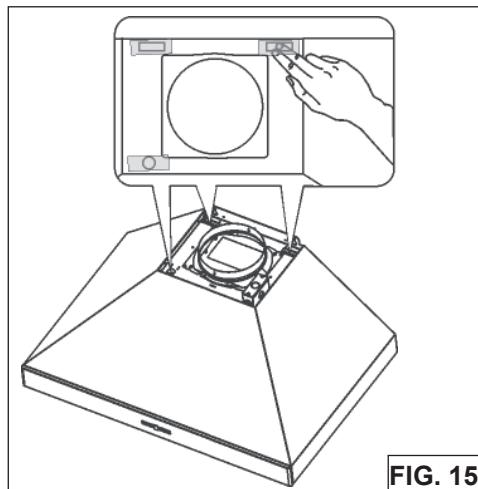

FIG. 15
5. Tape all openings on top surface of range hood (Fig.15).
2. Tape all openings on top surface of range hood (Fig.15).